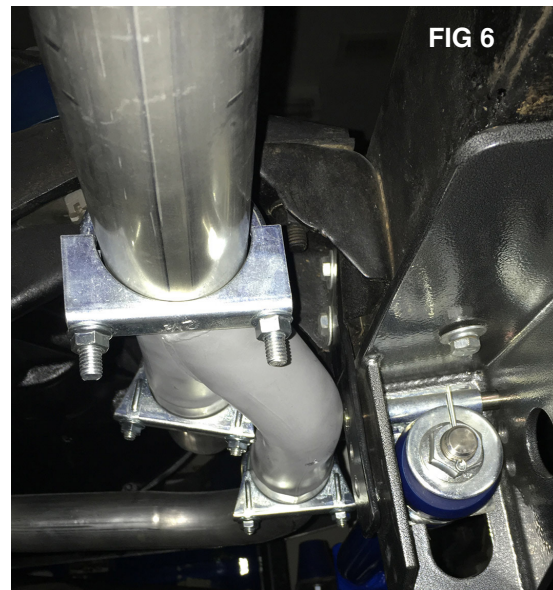

FIG 6
8. This next step will be a lot easier to do using a jack stand. If you don't want your muffler scratched in the process of installing it we suggest using green 3M painters tape and paper to cover it. Before it's installed, this is also the best time to add lava wrap or a heat shield to your muffler to keep excess heat off the floor and out of your Bronco. Both can be purchased at dufftuff.com. Position the muffler so the INLET is facing towards the engine and the FLOW ARROW is pointing towards the rear of the Bronco. With the jack stand close by, slide the muffler over **D**. Let the jack stand hold the muffler up and see **FIGS 6 & 7** on how to install **H & J** to the front of the muffler. You have some freedom to move the exhaust kit into position so it best fits your Bronco, you have a couple inches to move it up or down to where you like it. You can flip **H** up or down or move it to the bottom as well to give you more flexibility. See how the muffler is positioned in **FIG 8** Then tighten **J** to the muffler just enough so the muffler can't twist. Do NOT over tighten it!